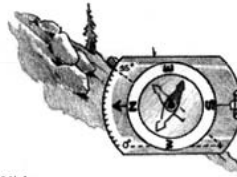

Figure 13
- Position compass so the straight edge of the base is parallel to the ground. (Figure 13)
- With sloping ground through the "+" and the inclinometer scale, read inclination at the scale (35°). (Figure 13)